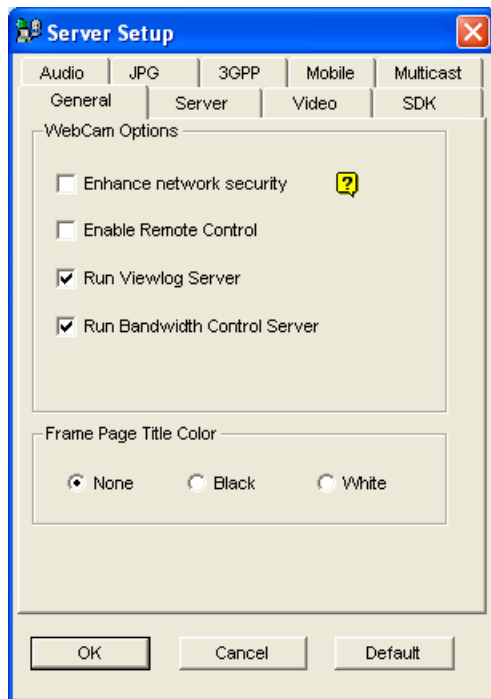

Figure 8-1 Server Setup- General
- **Rpb port:** This port is used for remote playback feature. The default value is 5511. For this feature to work, the **Run ViewLog Server** option (Figure 8-1) must be selected too.